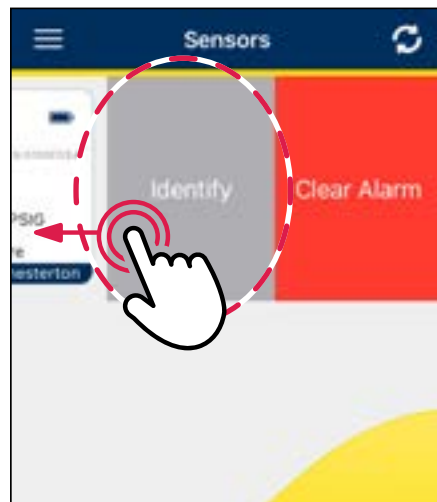

Figure 41
- For **IOS**: **swipe left** on the desired sensor (see figure 41). The identify/clear alarm option will appear.